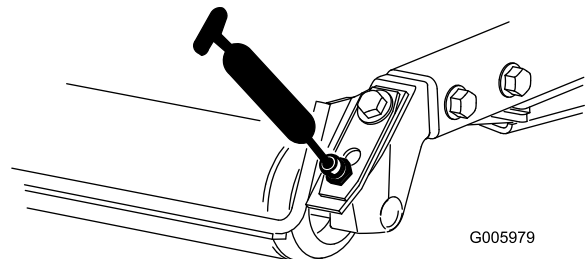
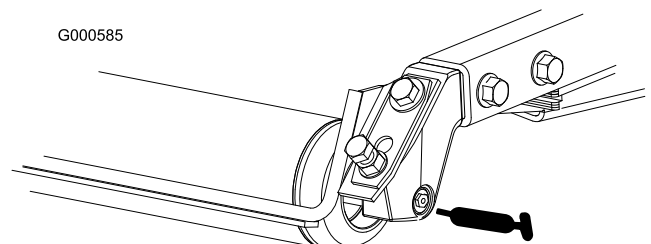

Figure 29
Figure 30
- Rear roller bearings (2 per cutting unit) (Figure 29 or Figure 30)
Note: On rollers equipped with flush grease fittings (Figure 30) a grease gun nozzle adapter is required. Order Toro Part No. 107-1998 from your Authorized Toro Distributor.